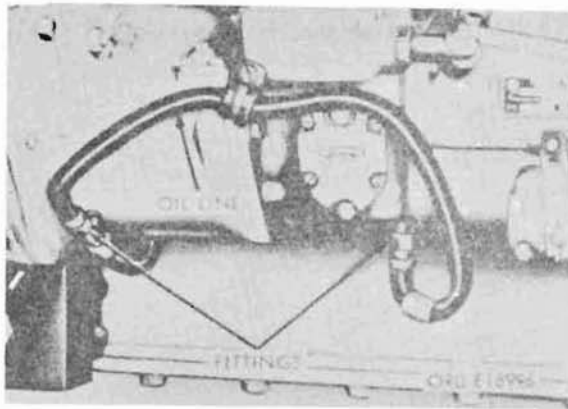

Figure 106. Engine oil lines and connections
a. Removal. Disconnect fittings from each end of oil lines and remove oil lines (fig. 106).